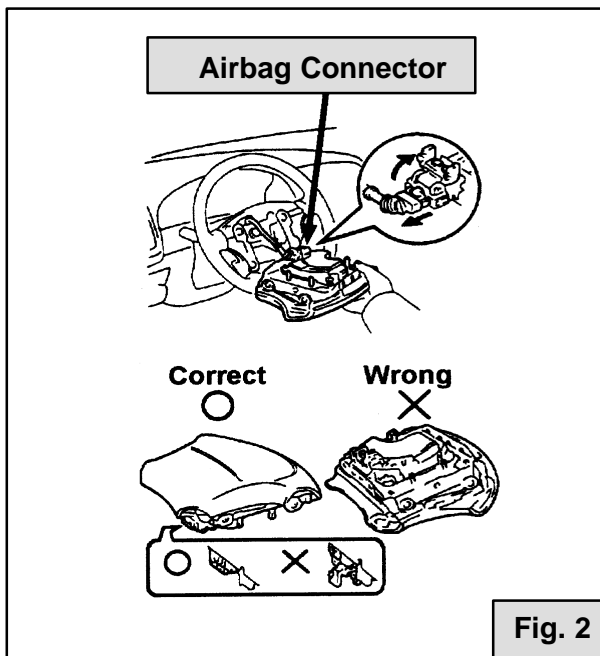

Fig. 2
- c. Pull the wheel pad away from the steering wheel and disconnect the airbag connector. (See Fig. 2)